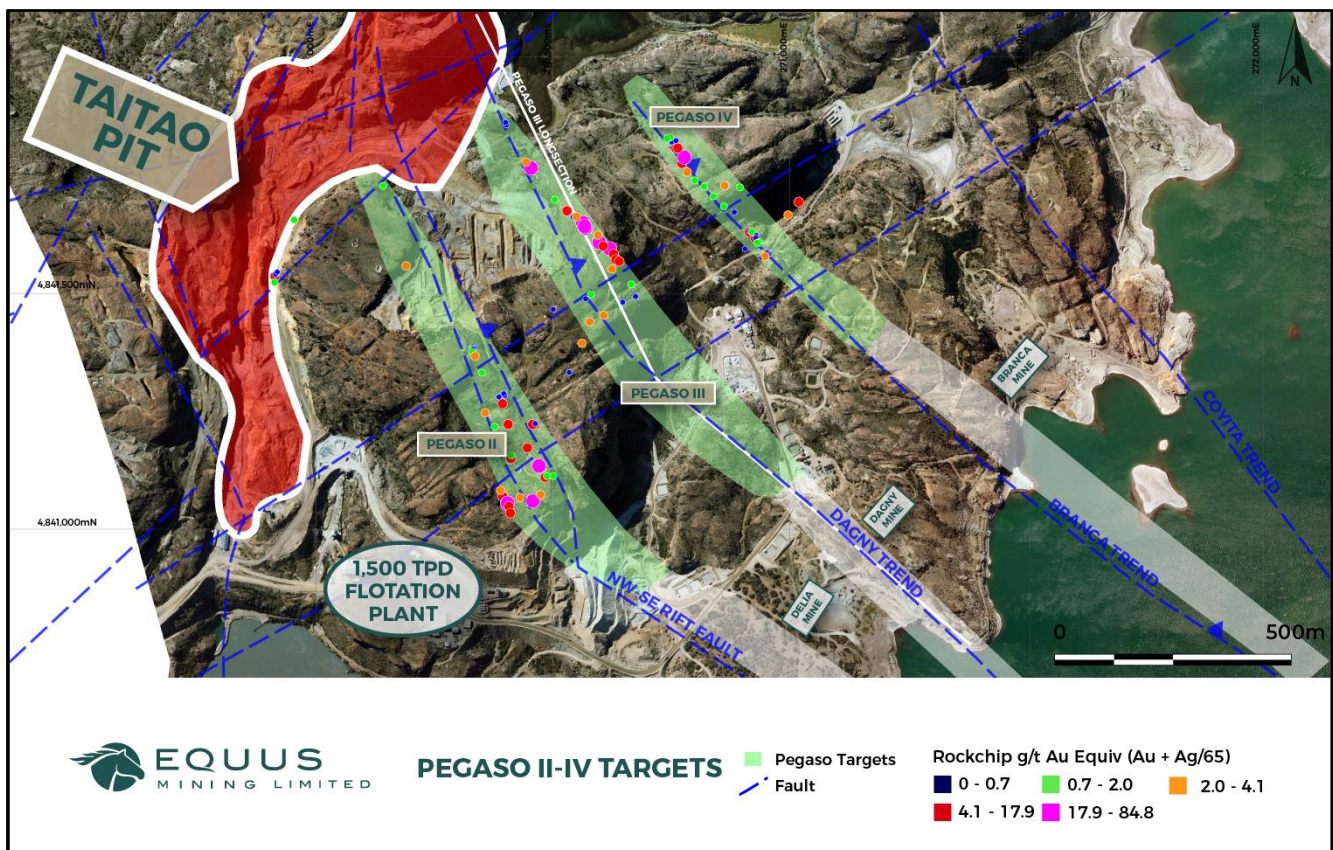

Figure 1 – Pegaso Prospects, with location of rock-chip sample results within the mapped vein hosting trends
- ▶ Results for a further total of 57 samples were received, which demonstrate high-grade silver mineralisation across the three targets, including a **peak value of 17.8 g/t gold and 4,350 g/t silver (84.7 g/t Au equivalent¹)** (Figures 1 and 2, Appendix 1). Sample results relate to continuous rock chip channel samples of outcropping quartz veins and breccias with widths of between 0.1 to 1m.